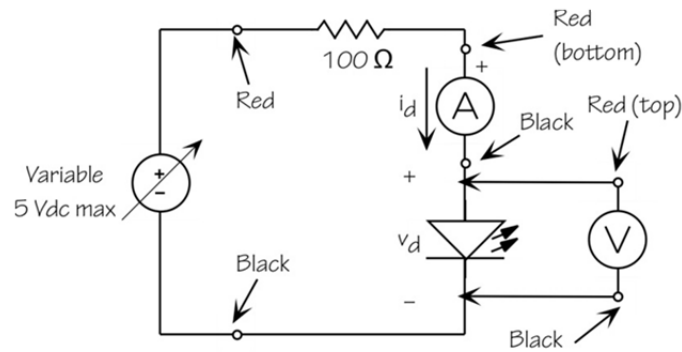

Figure 10: LED measurement circuit
- Set up the circuit in Figure 10. Make sure that you include the 100- $\Omega$  resistor in order to limit the current through the LED (and thus to prevent damaging it).
- Set up the +25 V power supply similar to what you did in part II and connect the red lead to the left side of the resistor and the black lead to the bottom of the LED. Next, connect the ammeter and voltmeter as shown in Figure 10. The 'circled A' in the diagram represents the ammeter with the red lead connected to the right side of the 100- $\Omega$  resistor and the black lead connected to the top of the LED. The 'circled V' in the diagram represents the voltmeter with the red lead connected to the top of the LED and the ammeter black lead. The black lead of the voltmeter connects to the bottom of the LED, the ground or bottom of the circuit and the power supply.